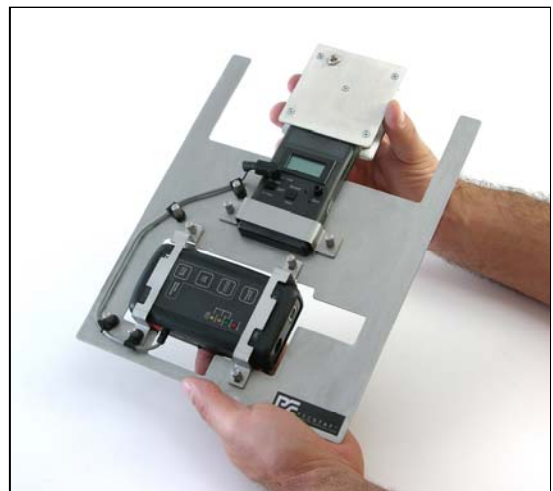

Figure 12: Mount lower CPM-720 Ground Plate into lower groove of PFM-711A case
16. Mount the CPM-720 Charge Plate Monitor Assembly onto the PFM-711A Field Meter by sliding the CPM-720 lower ground plate into the **lower groove** of the field meter case. Figure 12.